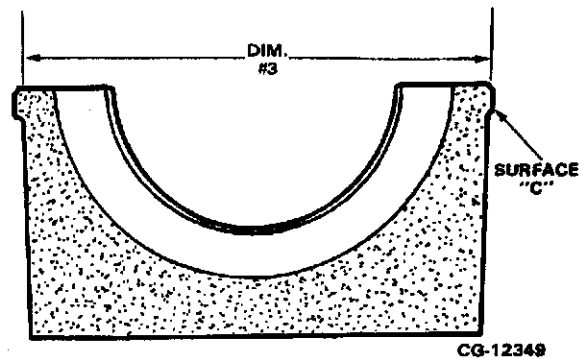

Figure 7.71. Dimension No. 3 (Bearing Cap Width)
- a. Calculate dimension No.3, prior to modifying surface "C". Refer to Figure 7.71.